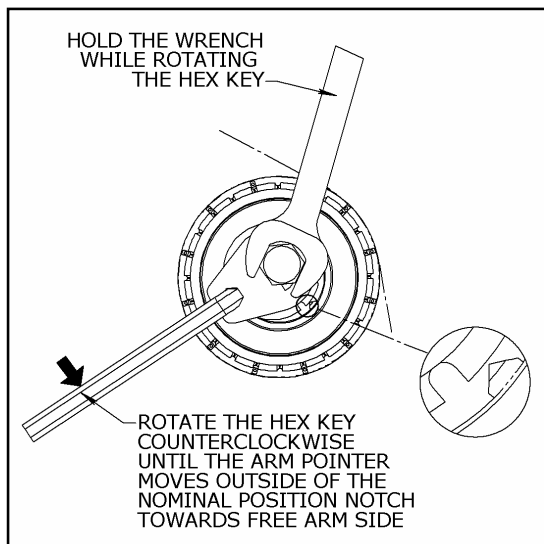
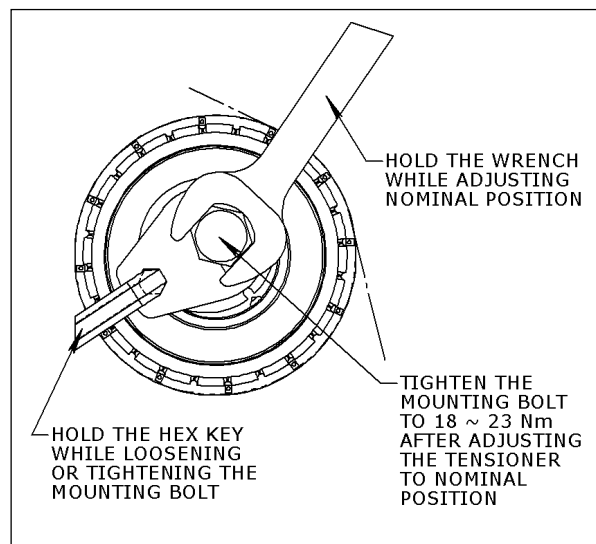

Figure 7a: Tensioner Re-adjustment towards Free-arm
Figure 7b: Tensioner Re-adjustment back to nominal position
13. Rotate the installation shaft **COUNTERCLOCKWISE** with the Allen Key until the Arm Pointer moves past the nominal position notch towards the Free-Arm side (Figure 7a), and then rotate the installation shaft **CLOCKWISE** until the arm pointer aligns with the Nominal Position Notch (Figures 7b and 6).
14. Tighten the Mounting Bolt (18~23 Nm) torque while preventing the Installation Shaft from turning using the Hex Key (Figure 7b).